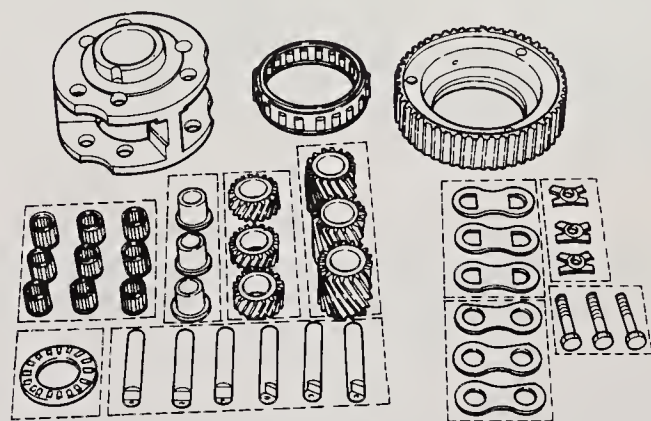

Fig. 61-20. Always keep all parts organized during major repairs. This can avoid confusion and will help you return all parts to correct locations. (Subaru)
2. Keep all parts organized so that used parts can be returned to their original positions, Fig. 61-20.